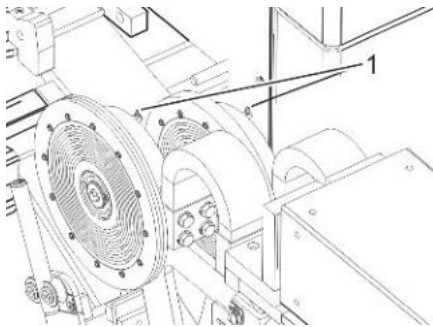

Fig. 26: Welding and contact roller
7. Connect grease gun to grease nipples (Fig. 26/1).